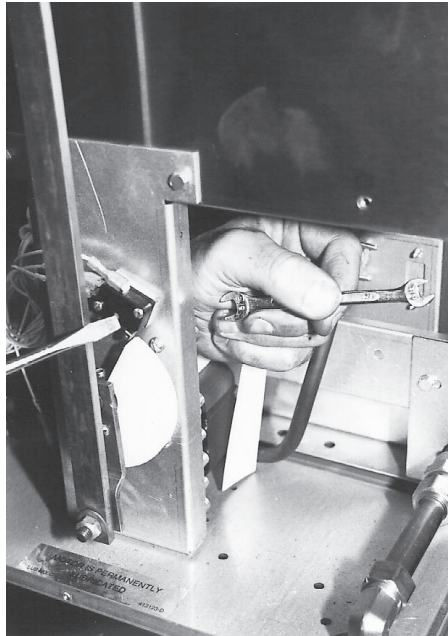

Fig. 64
2. Note and remove wiring. With a standard flat blade screwdriver and a 5/16" wrench remove (2) screws and holding nuts from the cam switch. (Fig.64)